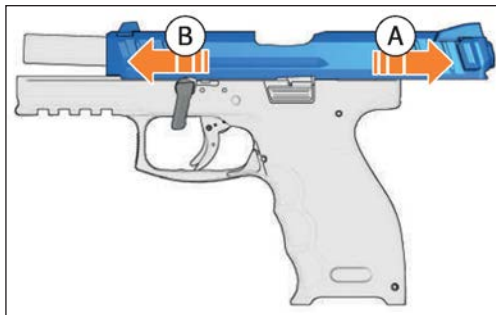

Figure 19 – Removing slide from frame by pushing it forward
3. Push the slide forward, removing the slide from the top of the frame (see Figure 19).